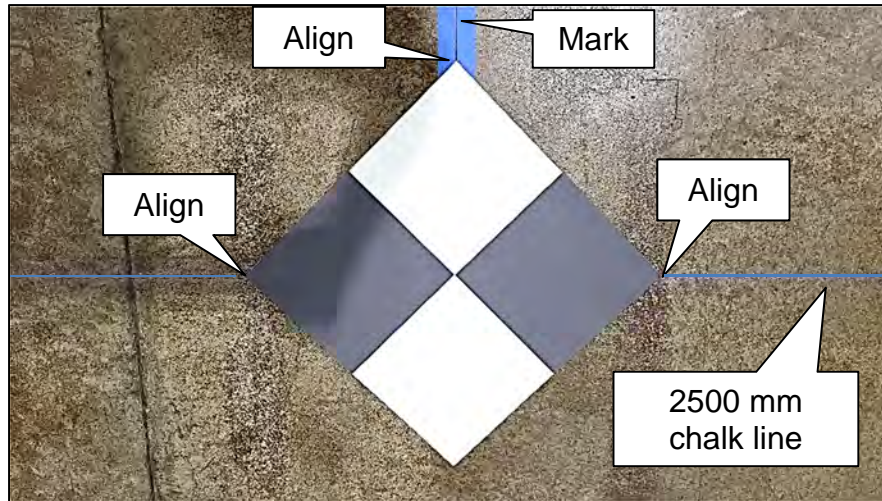
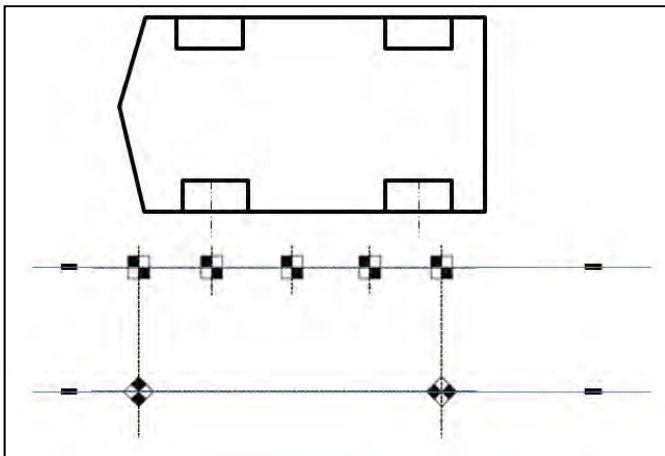
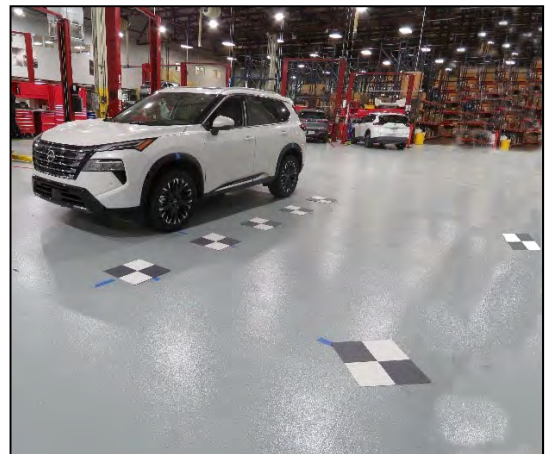

Figure 47
Figure 48
Figure 49
33. Place one (1) target on the rearward most mark on the 2500 mm chalk line.
**IMPORTANT:** Orient and align the target, as shown in Figure 47, Figure 48 and Figure 49. The target must be aligned with the 2500 mm chalk line and the mark made in step 30 on page 22.